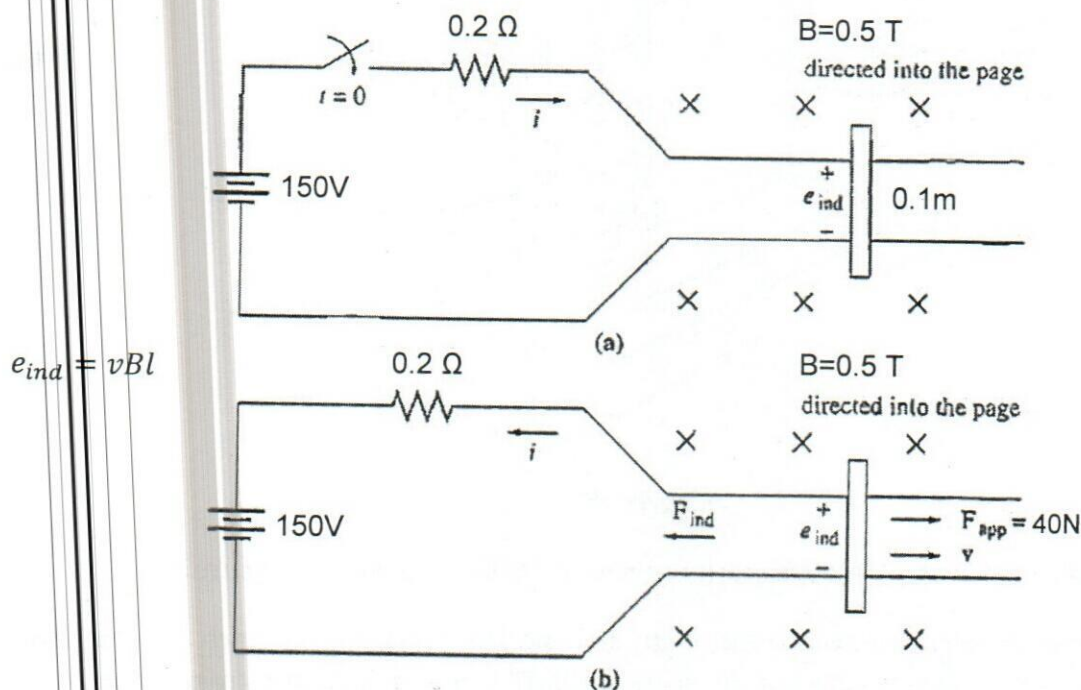

Figure 3.1
[A] The linear dc machine shown in **Figure 3.1(a)** has a DC supply voltage of **150 V**, an internal resistance of **0.2 Ω** , and a magnetic flux density of **0.5 T**.
- [iii] If a **40 N** force pointing to the right was applied to the bar as shown in **Figure 3.1 (b)**, what would the steady-state speed be?